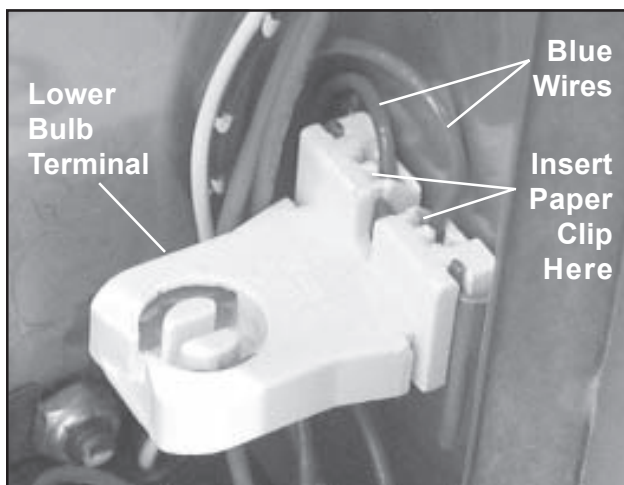

Figure 29. Removing Blue Wires from Bulb Terminal
8. Two blue wires go from the ballast to the lower terminal of the fluorescent bulb. Push the end of a straightened paper clip into the small slot in front of each blue wire in the terminal, and pull the wire out (Figure 29).
2. Insert the two blue wires from the new ballast into the lower bulb terminal (Figure 29). Either wire can go to either connection.